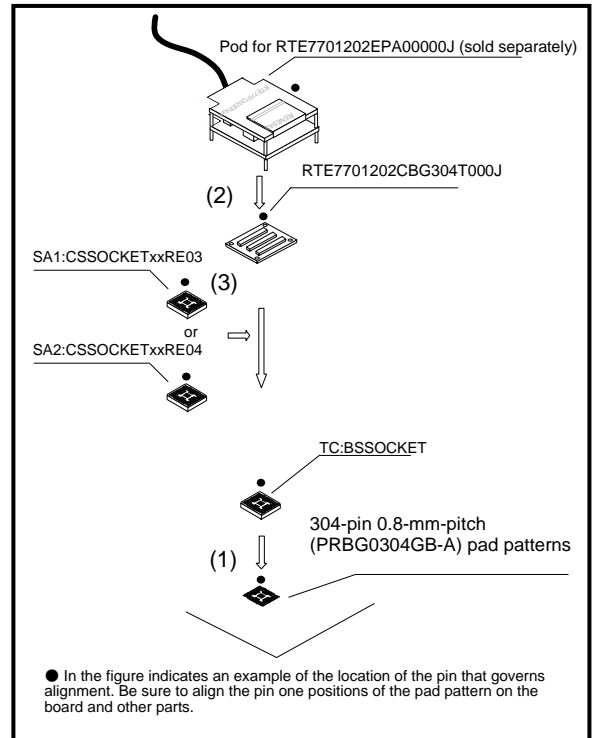

Figure 3 Procedure for Connecting the RTE7701202CBG304T000J
5. Connection Procedure (See Figure 3)